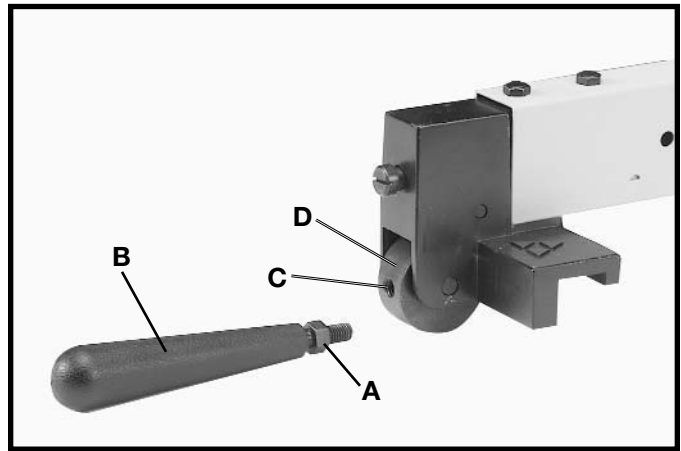
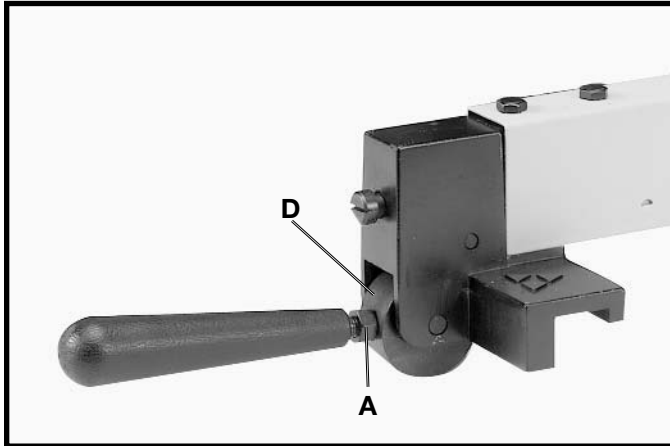

Fig. 24
Fig. 25
1. Thread the M8x1.25 hex nut (A) Fig. 24, approximately halfway onto stud of handle (B).
2. Thread handle (B) Fig. 24, into tapped hole (C) in fence cam (D). Tighten hex nut (A) Fig. 25, against cam (D).